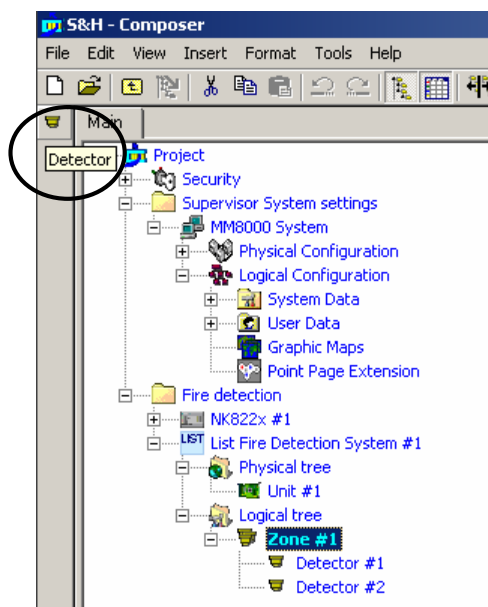

Fig. 13 Adding detectors to a Zone
6. Select the zone nodes and add the detectors associated to each zone. (Fig. 13)